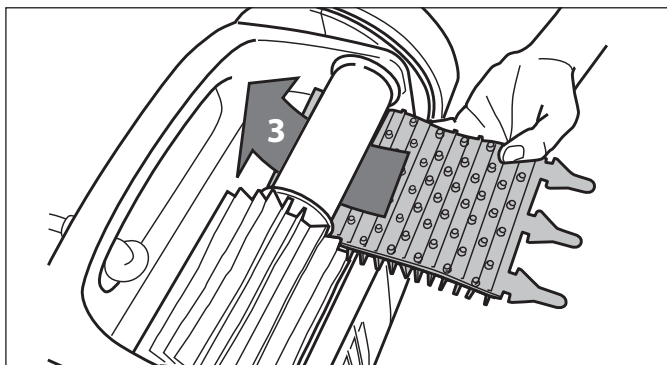

Figure 35. Install the New Brush
3. To install a new brush matt, position the new brush matt on the roller with the bristles facing downwards (Figure 35).